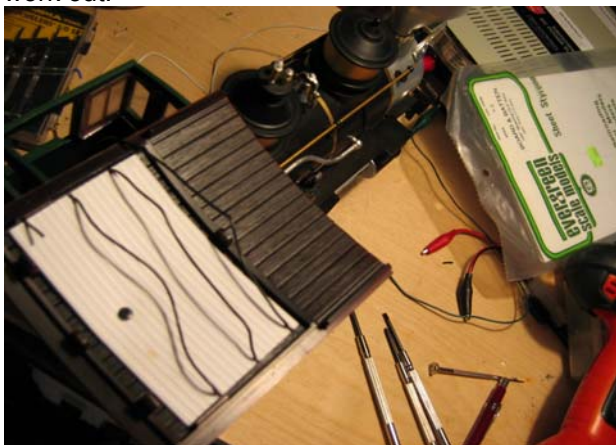

**Figure 9 – Sliding On Board receiver into boiler**
I left the original LGB printed circuit board (PCB) in the cabin to control the all the LED lights and smoke device. There is a switch at the rear of the Mogul with three positions. Position (1) turns everything off (i.e. no motor, no lights, no smoke), (2) turns on motor and lights with no smoke, (3) turns on motor, lights and smoke. When the smoke element is turn on, with switch position 3, the LGB PCB gets rather warm. Since my on-board receiver was going to be position on top of this board (as seen in Figure 9) I did not want all the heat, so I moved the switch to position number 2 (motor, lights, no smoke). I will turn to switch position 3 when I want smoke, but I usually run without smoke anyway.